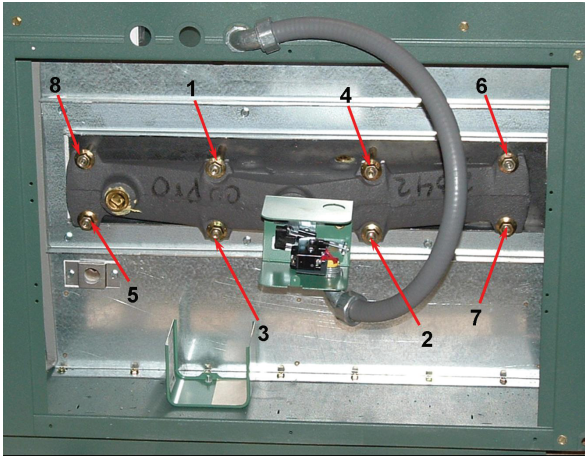

Figure 8. Torque Sequence
- Slowly tighten the flange nuts, starting from the center nut (number 1) in **Figure 8** and working sequentially around the header as indicated. Torque all nuts to 25 ft/lb. DO NOT OVER-TIGHTEN.